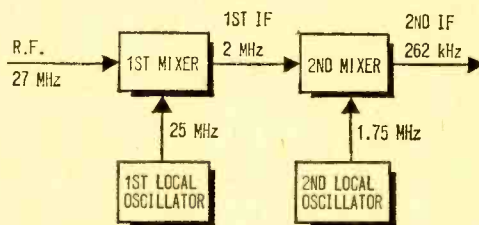

Fig. 11. Dual-conversion superhet operates by two-stepping down to the low IF—27 MHz to 2 MHz and then from 2 MHz to 262 kHz. Used a lot in CB rigs.
**Takes Two to Tango.** The dual conversion circuit, found in much CB, ham and communications equipment contains *two* IF amplifiers. One is tuned to a high IF frequency to obtain the benefits of good image rejection. The second amplifier is at a low frequency to net high selectivity. An example of how the system operates is shown in Fig. 11. Note that a second local oscillator is required for the two-step conversion.